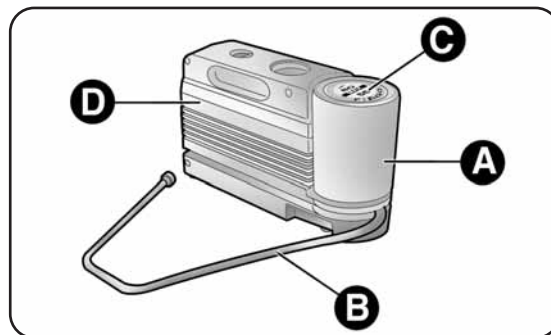

fig. 122a
- a bottle A-fig. 122a containing sealing liquid, provided with: filling tube B and adhesive label C with the wording "max. 80 km/h" to be placed in a clearly visible position (e.g. on the dashboard) after repairing the tyre;